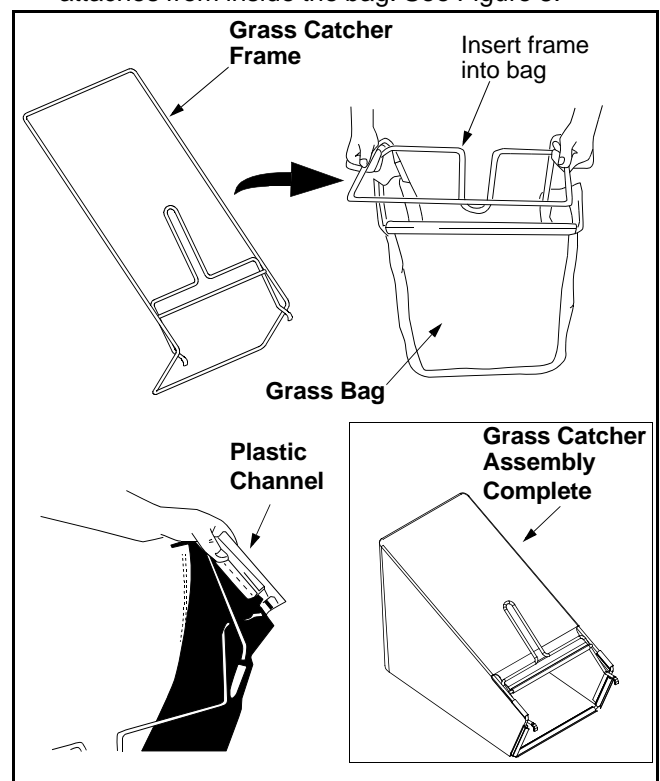

Figure 8
- Insert frame into grass bag with the black plastic side on the bottom of bag. See Figure 8.
- Slip the openings in the side of the plastic channel on bag over the hooks on the grass catcher frame. Secure bag to the frame by working the six plastic channels on bag over frame. All of the plastic channels except the center top of the bag attach from the outside of bag. The center top of the bag attaches from inside the bag. See Figure 8.